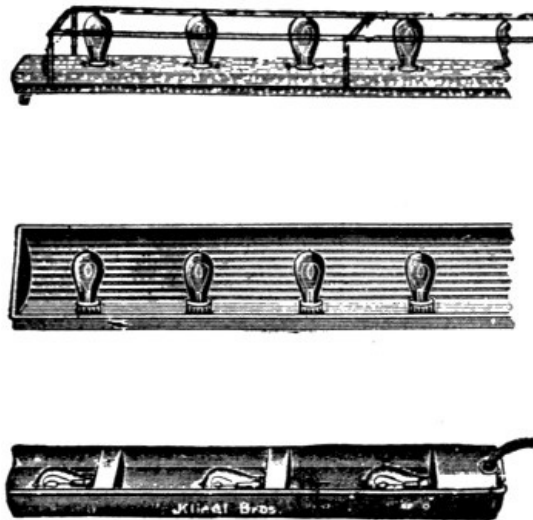

FIGURE 212.
*Strips.*—Strips are used for the illumination of special parts of the scenery. They usually contain from one to twelve lights. A strip is subject to rough usage and should be strongly made. Cuts of several kinds of strips are given in Figure 212. The chief trouble with strips is found to be in the working loose of screws which hold the sockets in place, and the connection at the point at which the cable leaves the strip.